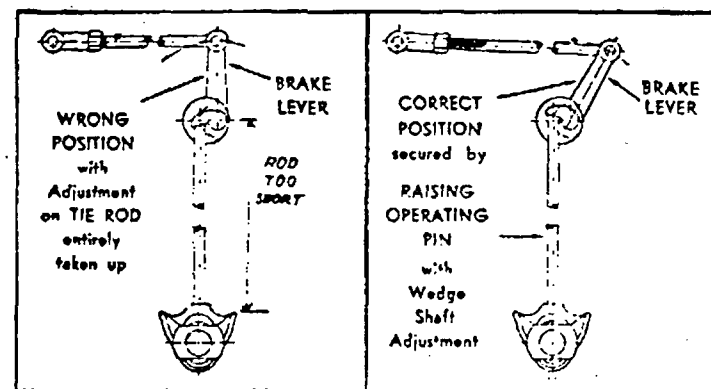

Fig. 1
1. If front levers (C) pull past their centers (Fig. 1) when brakes are applied, lengthen the push rod by placing a brake spreader shim (or the head of a 3/16" stove bolt) in the hole of the wedge applying cam (B), between the push rod and the wedge cam. (Adjustable brake wedges are available which allow raising or lowering of the wedge socket as necessary.)